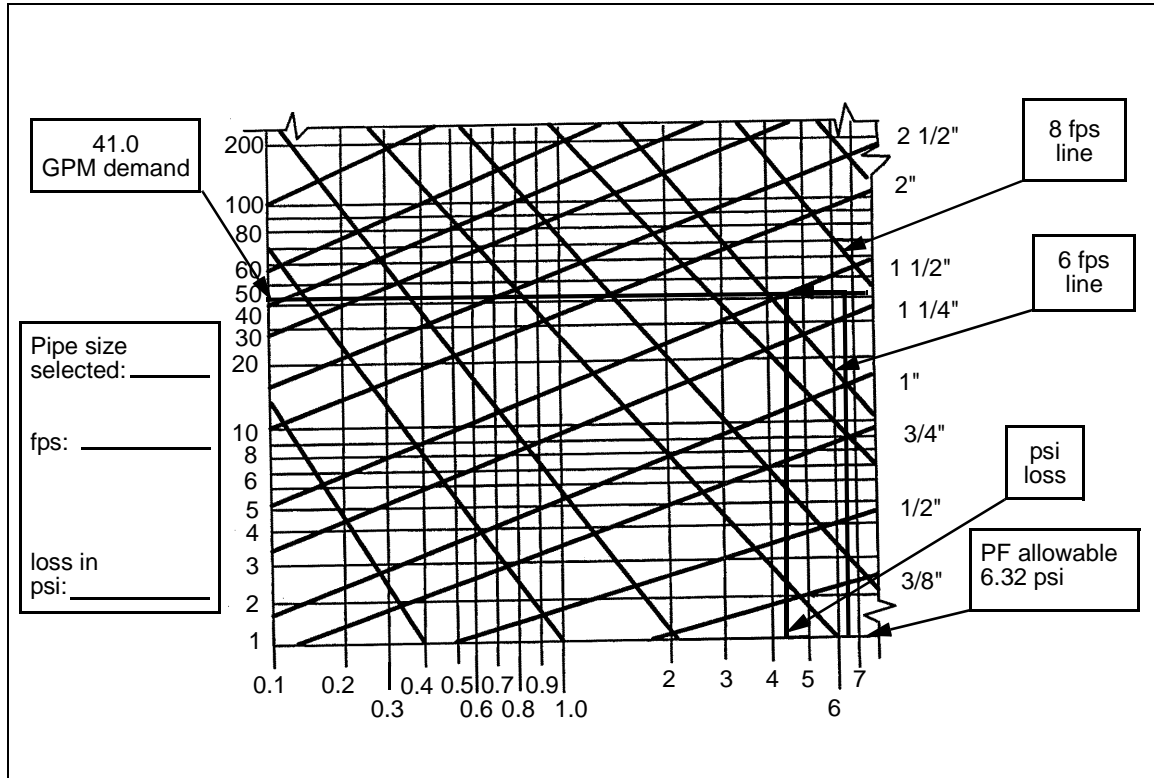

Figure D-1. Friction Loss Using a Fairly Smooth Pipe
D-2. Refer to *Figures D-1 through D-5, pages D-7 through D-11*, to design and draw a water service line. These figures can also be used to determine pipe sizes.
D-3. Use the following steps and *Figure D-1* to determine the size of the pipe, the velocity, and the friction loss from Point A to Point B:
Find the fluid's actual velocity, which should be between 2 and 10 fps, and find PF_{actual} (from Figures D-1 to D-5, pages D-7 through D-11).
Step 7. Determine the equivalent pipe length (EL) for fittings. Go back to Step 4 and recalculate $PF_{allowable}$. If the pipe size changes in the appropriate friction loss table (Figure D-1 through D-5, pages D-7 through D-11), then find the new velocity and PF_{actual} from Figures D-1 through D-4. EL is negligible if there is 1,000 feet or more between fittings.